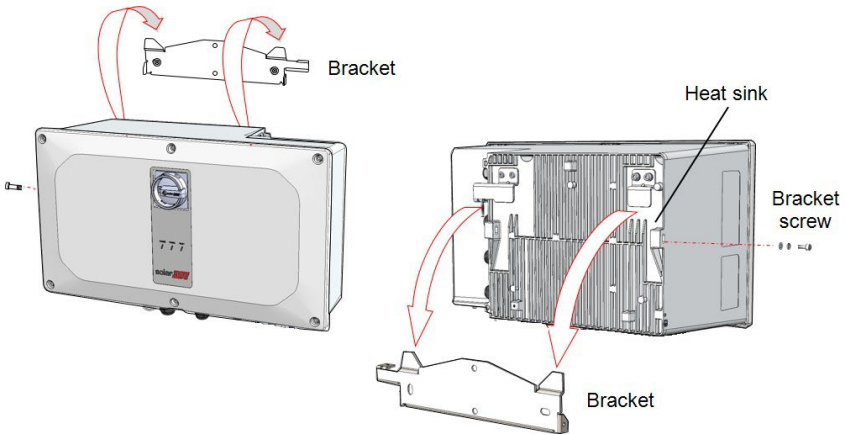

Figure 18: Hanging the Synergy Manager
- Align the two indentations in the enclosure with the two triangular mounting tabs of the bracket, and lower the unit until it rests on the bracket evenly (see *Figure 18*).
- b. Align the two indentations in the enclosure with the two triangular mounting tabs of the bracket, and lower the unit until it rests on the bracket evenly (see *Figure 18*).